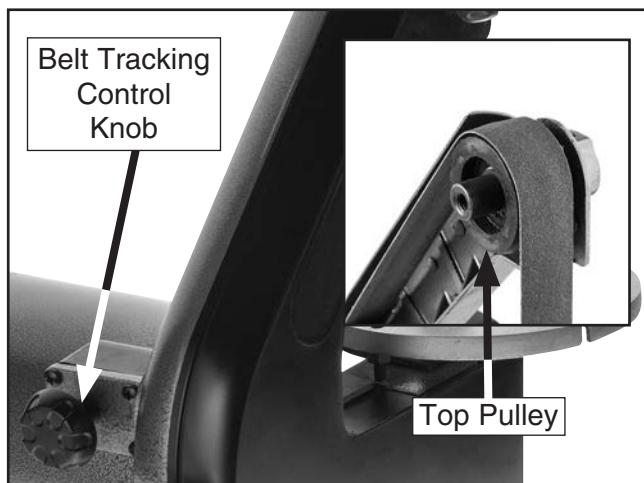

Figure 12. Sanding belt tracking adjustment.
- If sanding belt moves left, rotate belt tracking control knob counterclockwise $\frac{1}{4}$ turn (see **Figure 12**).